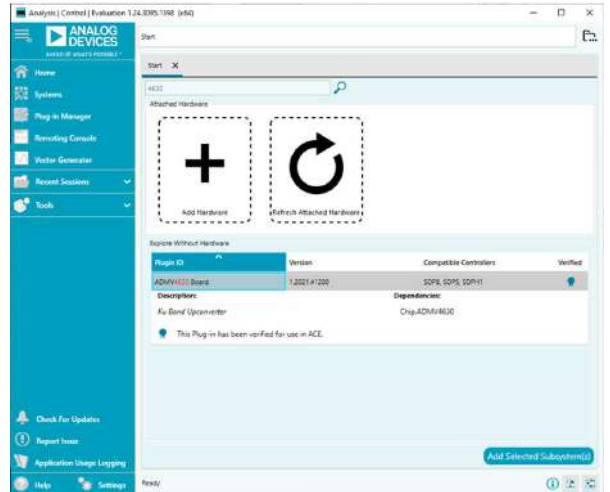

Figure 4. EVAL-ADMV4630Z Plugin Window
3. When the software and driver installations are finished, open the ACE software and the EVAL-ADMV4630Z plugin appears (see Figure 4).